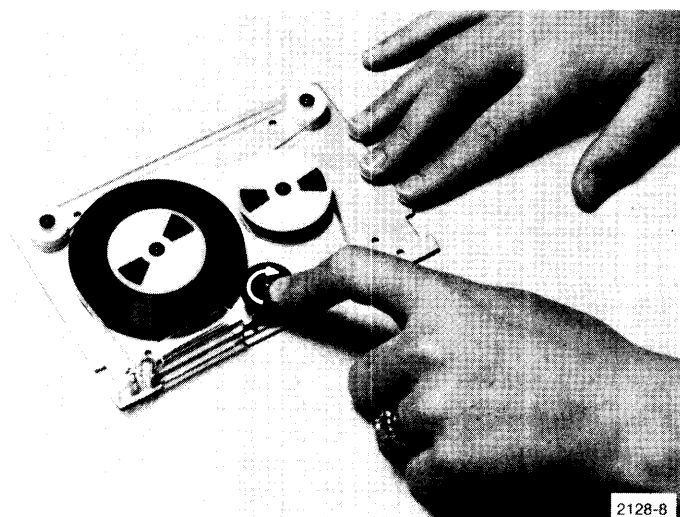

Fig. 2-9. Winding the tape.
5. Hold the loose end of the tape against the spool, and continue to rotate the drive roller until the loose end passes under the continuing length of tape, then continue to rotate for a few more turns, until the first set of sensing holes is reached (Fig. 2-9). Make certain that these first windings stay evenly within the spool edges.